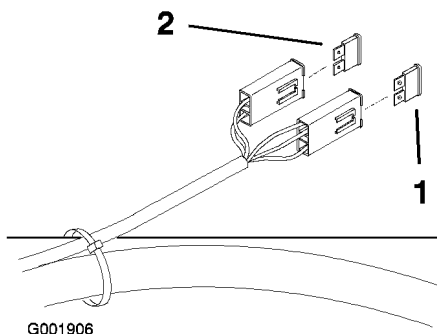

Figure 53
2. To replace a fuse, pull out on the fuse to remove it (Figure 53).